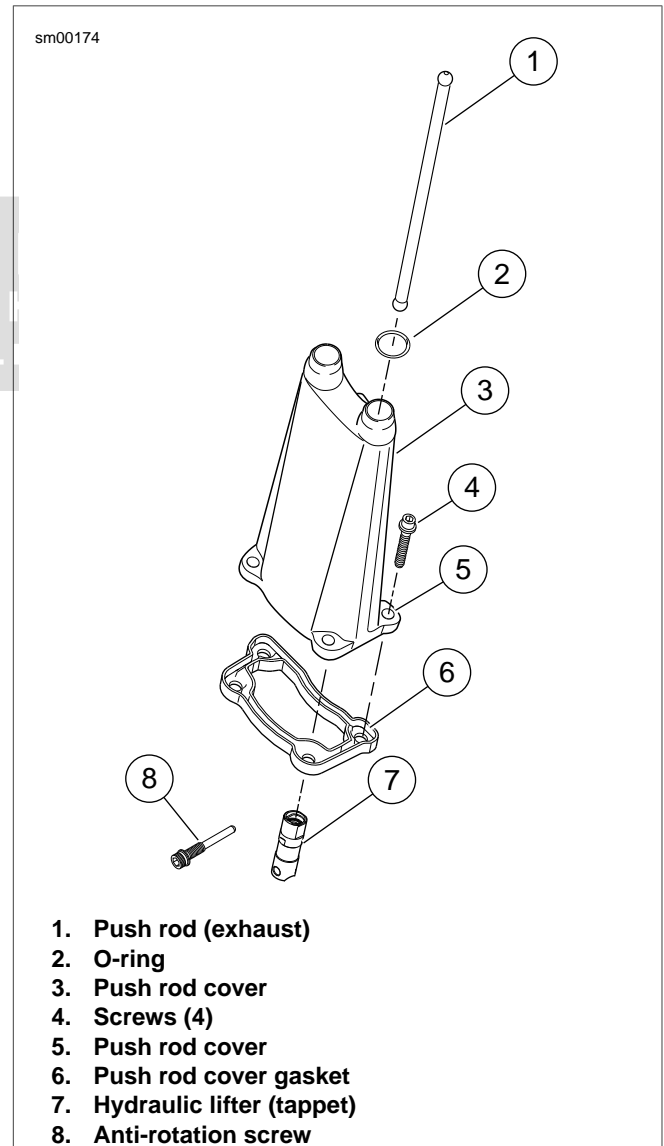

Figure 3-108. Valve Lifter Service
3. See Figure 3-108. Remove push rod covers.
- a. Remove screws (4).
- b. Remove push rod covers (3).
4. Remove valve hydraulic lifters (7).
- a. Remove anti-rotation screws (8).
3. See Figure 3-108. Insert lifter into bore in crankcase. Rotate lifter so that flats at upper end of lifter face the front and rear of the engine. If the lifter is installed incorrectly, anti-rotation screws cannot be inserted.
- a. Install anti-rotation screws with washers (8) in the holes in lifter block.